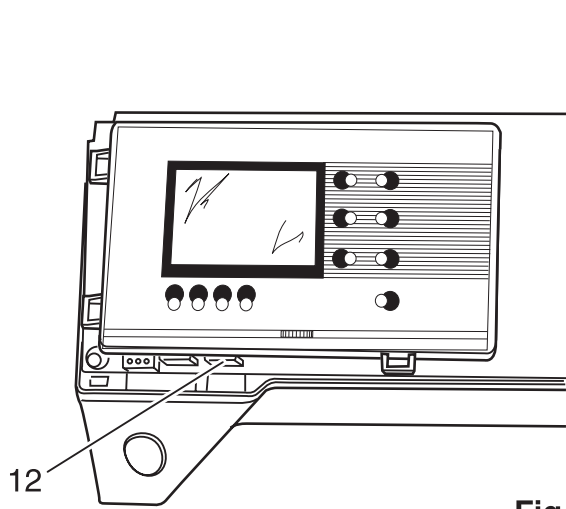

Fig. 96
- Remove connection plug 12 from the circuit board on the front housing panel (fig. 96).
- Mount connection plug 12 onto the circuit board on the front housing panel (fig. 96).